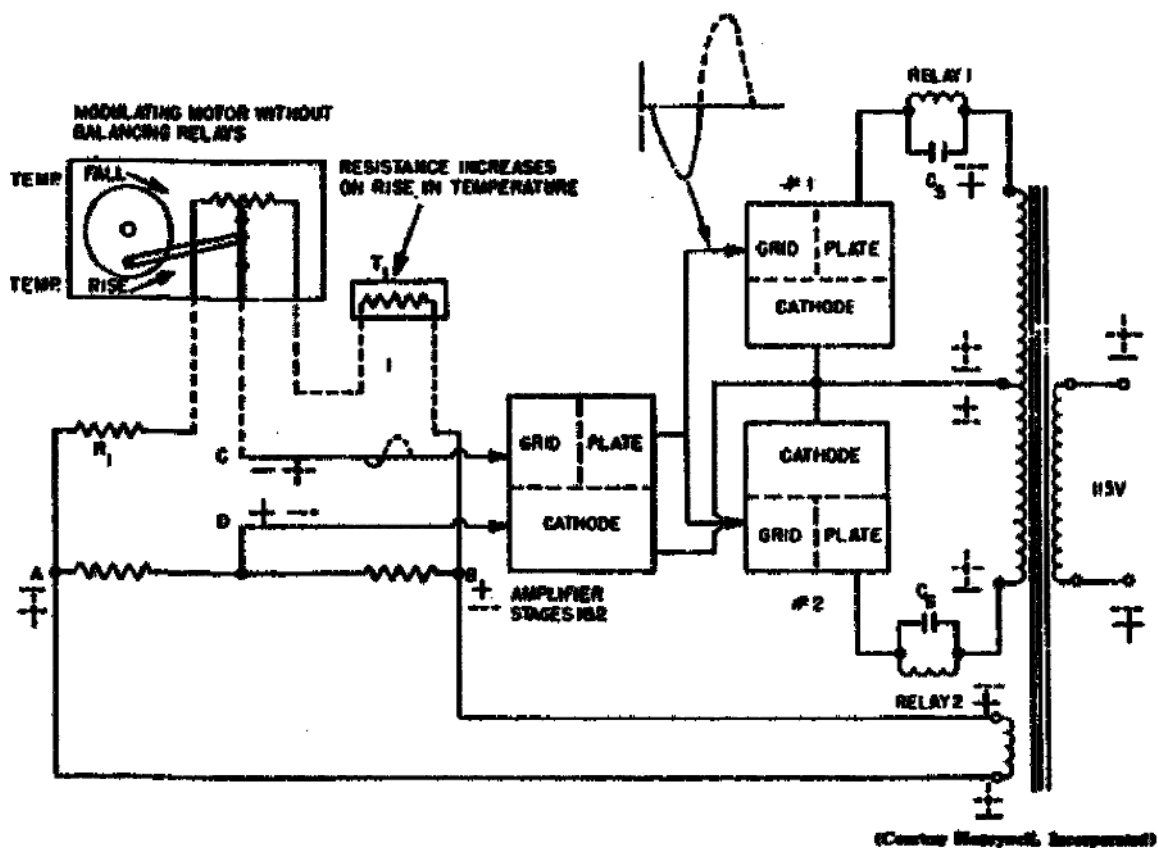

Figure 132. Modulating control.
10. For modulating control, illustrated in figure 132, a modulating motor is used with a balancing potentiometer. The balancing potentiometer is wired in series with the thermostat resistor. Its purpose is to bring the bridge back into balance (no voltage between points C and D) when a deviation has been corrected. Assuming a rise in temperature at  $T_1$  and the polarity shown by the solid symbols, point C will be negative. Neither of the discriminator tubes will conduct because the control grids of both are negative beyond cutoff bias.